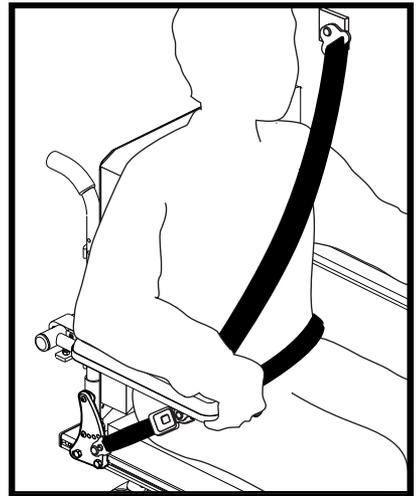

**Figure 8. Proper Pelvic Belt Placement**
- Some power chair components, like armrests and wheels, can interfere with proper belt fit. It may be necessary to insert the belt between the armrest and the seatback or through openings between the backrest and seat in order to avoid placing the pelvic belt over the armrest. **See figure 8.**